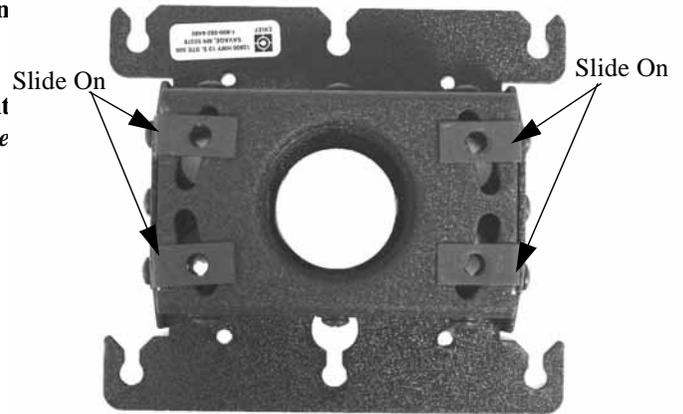

Figure 8. Install Speed Nuts
1. Install speed nuts on the RPA (see Figure 8).